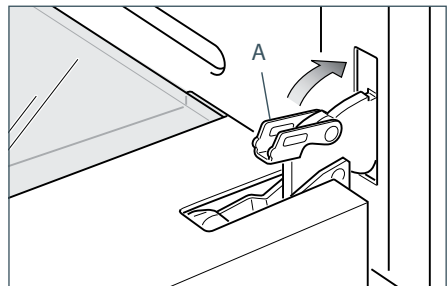

Fig.84d
- 4 Unlock the oven door by opening it completely and closing the lever "A" on the left and right hinges (Fig. 84d).